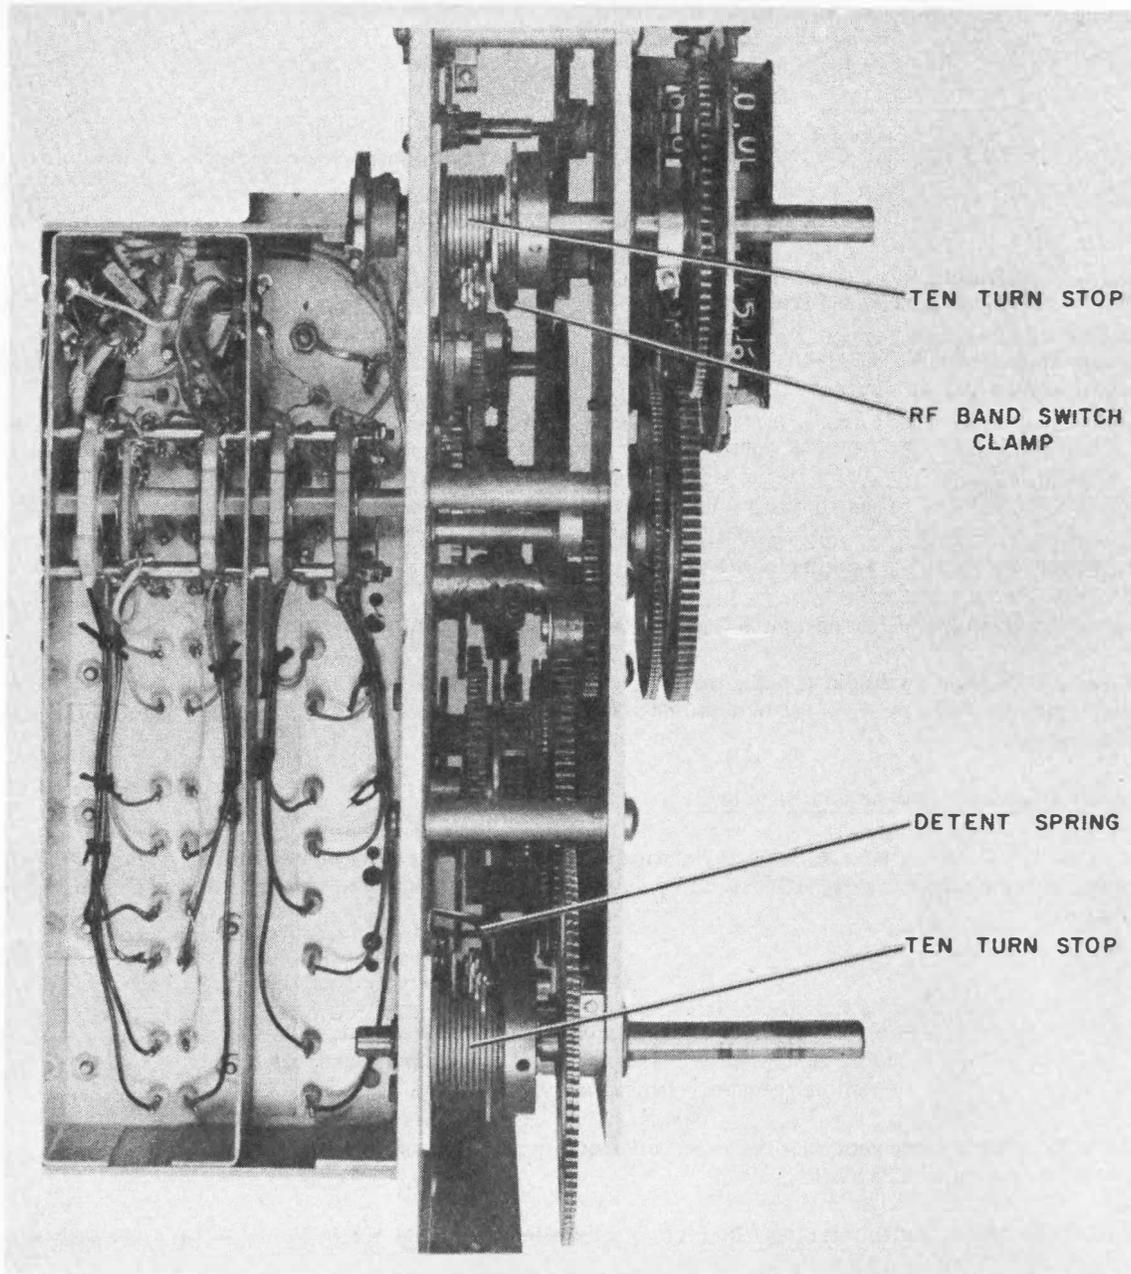

Figure 6-3. Location of RF Band Switch Shaft Clamp, Detent Spring and Ten-Turn Stops
6.2.5.1 Ten-Turn Stops. Check the 10-turn stops (figure 6-3) by rotating the MEGACYCLE CHANGE and KILOCYCLE CHANGE shafts fully counterclockwise. The first two digits on the frequency indicator should indicate between 99 and 00 MHz (off the detent position). The next three digits should indicate between -963 and -972 kHz.
9. Loosen the RF band switch clamp (figure 6-3). Turn the band switch shaft until the rotors are centered on the contacts which provide the indications required in procedures 4 and 5 above. Tighten the RF band switch clamp.